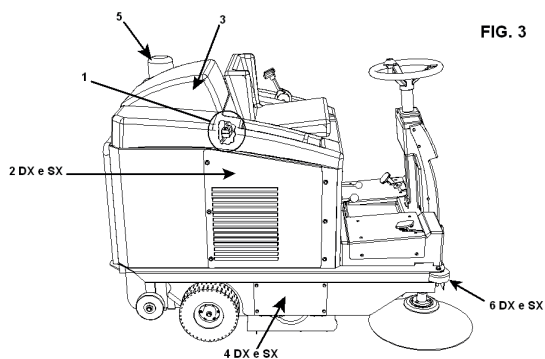

FIG. 3
**Fig. 3** shows the safety protections, which must be carefully fitted and in good working condition. The machine cannot be used with one or more safety protections devices missing or damaged. The description of the protection devices and relevant order codes are shown below: